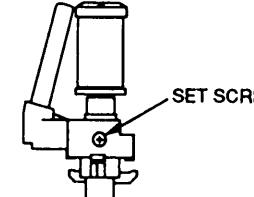

Fig 33.
- Slightly loosen the set screw at the lower part of the LOADING LEADERS (L, R) so that the LOADING LEADER can be adjusted with reasonable tightness. (Refer to Fig 33.)